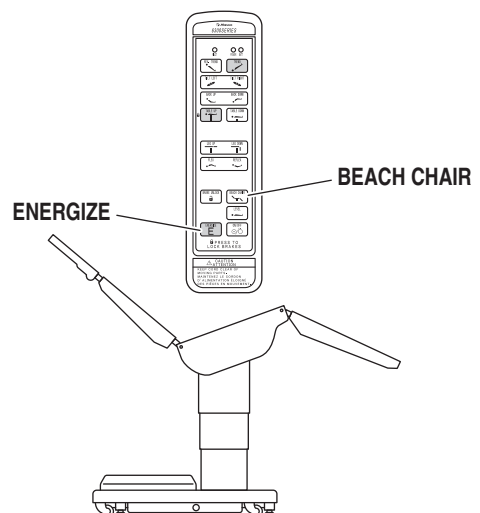

Figure 2-15. Beach Chair Positioning
i. Beach Chair To place the top in the beach chair position from a level position, press the ENERGIZE button and then the BEACH CHAIR button (figure 2-15). The back section will raise, the leg section will lower and the Trendelenburg positioning will function simultaneously. The functions will stop when the back section reaches its limit.